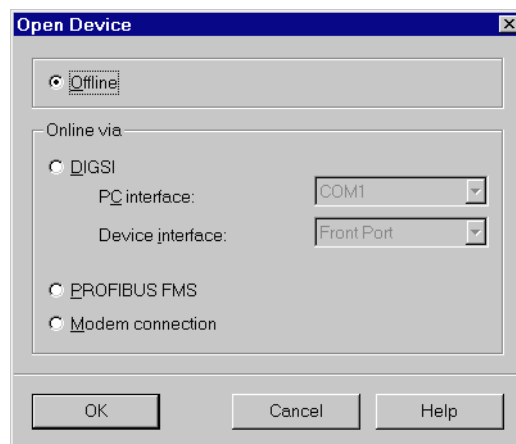

Figure 9-4 DIGSI® 4, dialog field Open Device
- Doubleclick on this item. The **Open Device** dialog box opens, as shown in Figure 9-4.